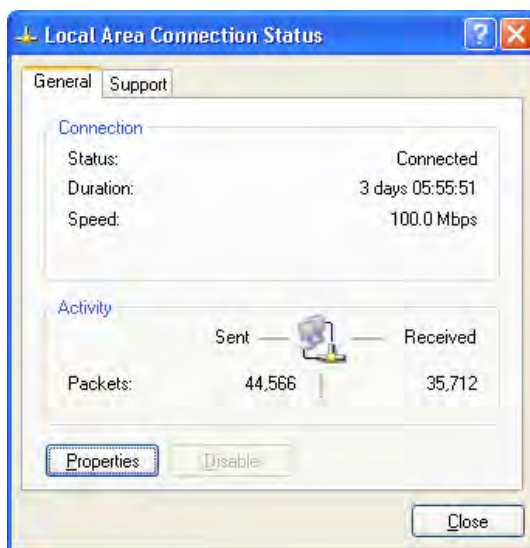

Figure 3. The Local Area Connection Status Dialog
5. In the panel labeled **LAN or High-Speed Internet**, double-click the **Local Area Connection** icon. The **Local Area Connection Status** dialog box will appear, as shown in Figure 3.